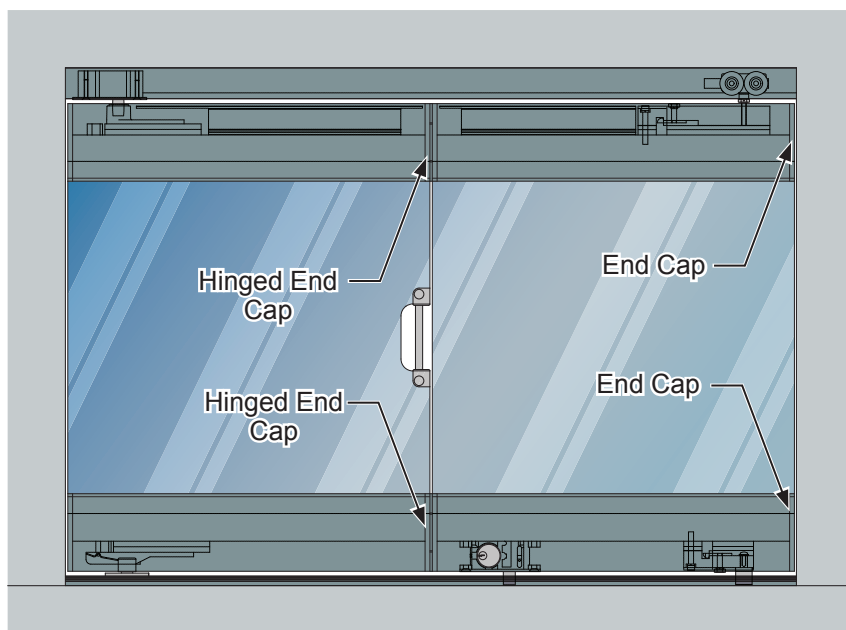

Fig. 16
3. Secure the hinged end caps attached to the pivot door leaf to the sliding door leaf. Be sure the screws are tight. Continue this process until all the sliding door leaves are installed. **(Fig. 16)**